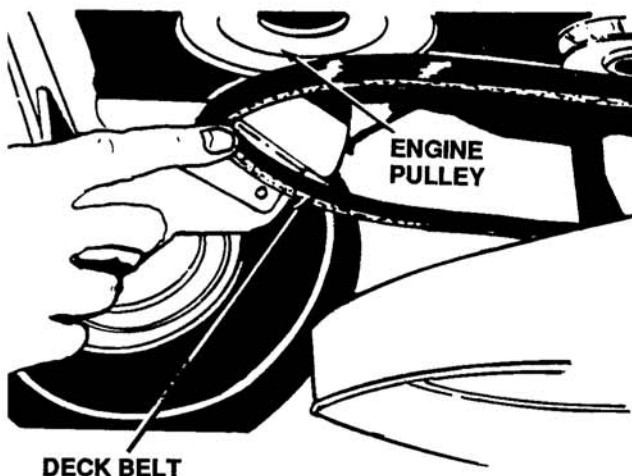

Figure 12-12. Removal of Deck Belt
7. Loosen the second bolt (do not remove), pivot the guard downward and slip the deck belt off the engine pulley. See Figure 12-12.